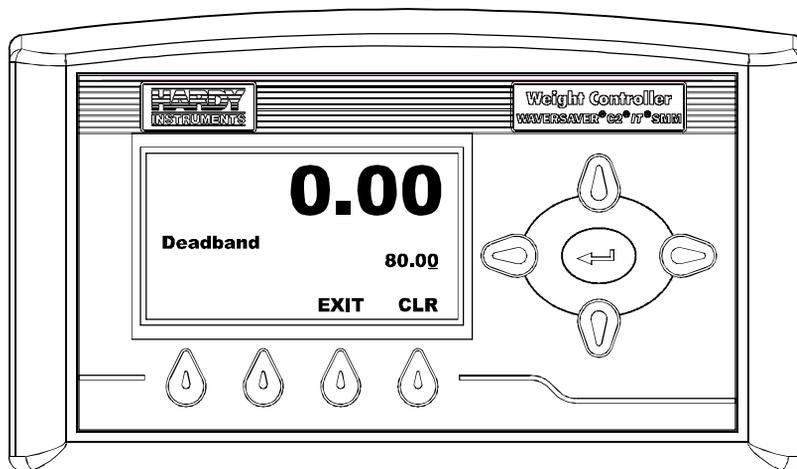

FIG. 63 DEADBAND MENU/ENTERING DEADBAND VALUE
- Step 22. Press the Enter button. The Deadband menu appears. (See Fig. 63)